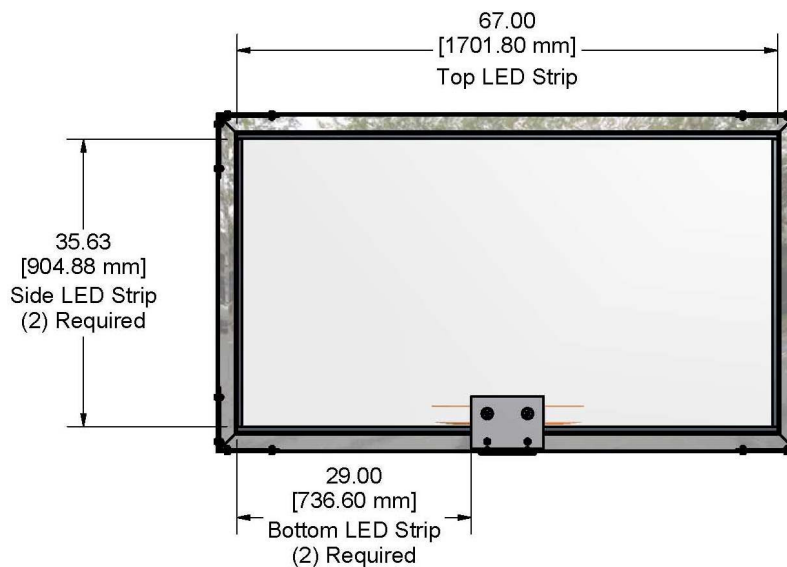

Figure 1
2. Position the LED light strips on the backboard without removing the protective backing from the adhesive strip. See Figure 1 for proper placement and dimensions.